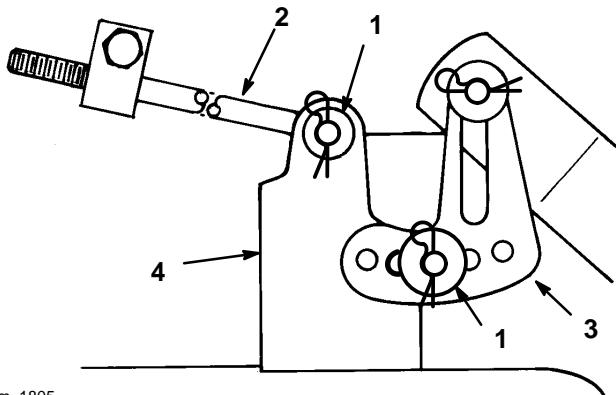

Figure 39
- Remove the hair pin cotter and washer at the top of the mower leveling bracket (Fig. 39). Now slide the bracket off the mounting pin. Repeat this step on the opposite side of the mower.
- Remove the hair pin cotter and washer from the end of the long rod (Fig. 39). Now slide the rod out of the mower mount. Repeat this step on the opposite side of the mower.